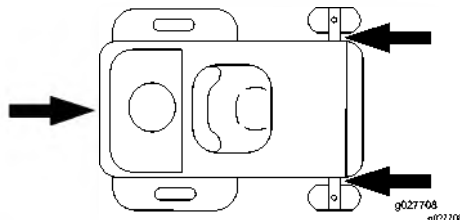

Figure 33
6. Tie down the machine near the front caster wheels and the rear frame with straps, chains, cable, or ropes (Figure 33). Refer to local regulations for tie-down requirements.